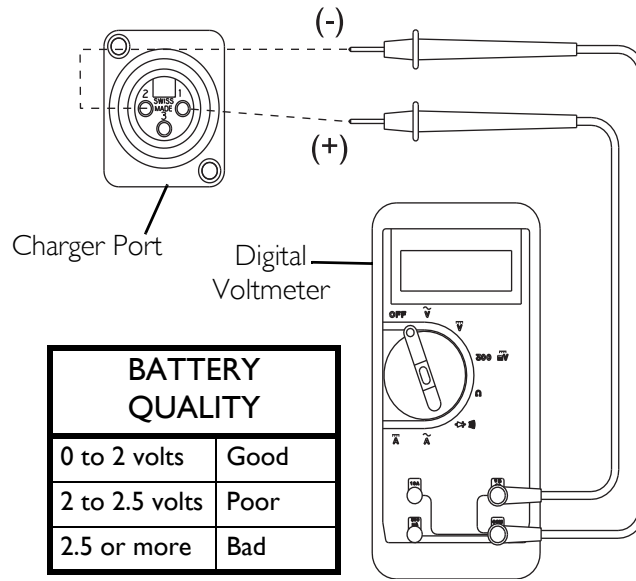

FIGURE 3.1 Field Load Test
NOTE: For this procedure, refer to FIGURE 3.1 on page 35.
4. Connect the voltmeter leads to the charger port on the wheelchair as shown in FIGURE 3.1 on page 35. Most digital voltmeters are not affected by polarity, however, analog meters (meters with swinging needles) can be and should be used carefully. A good meter reading should be 25.5 to 26 VDC.